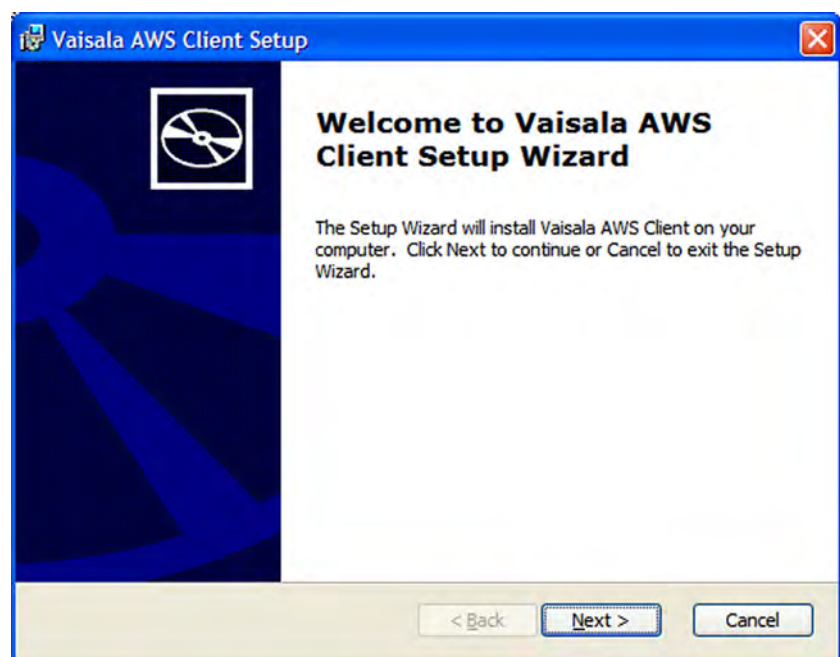

Figure 13 Installation Wizard Welcome Window
2. The AWS Client installation wizard starts, and the **Welcome** window shown in Figure 13 on page 37 is displayed. Begin the installation by selecting **Next**.